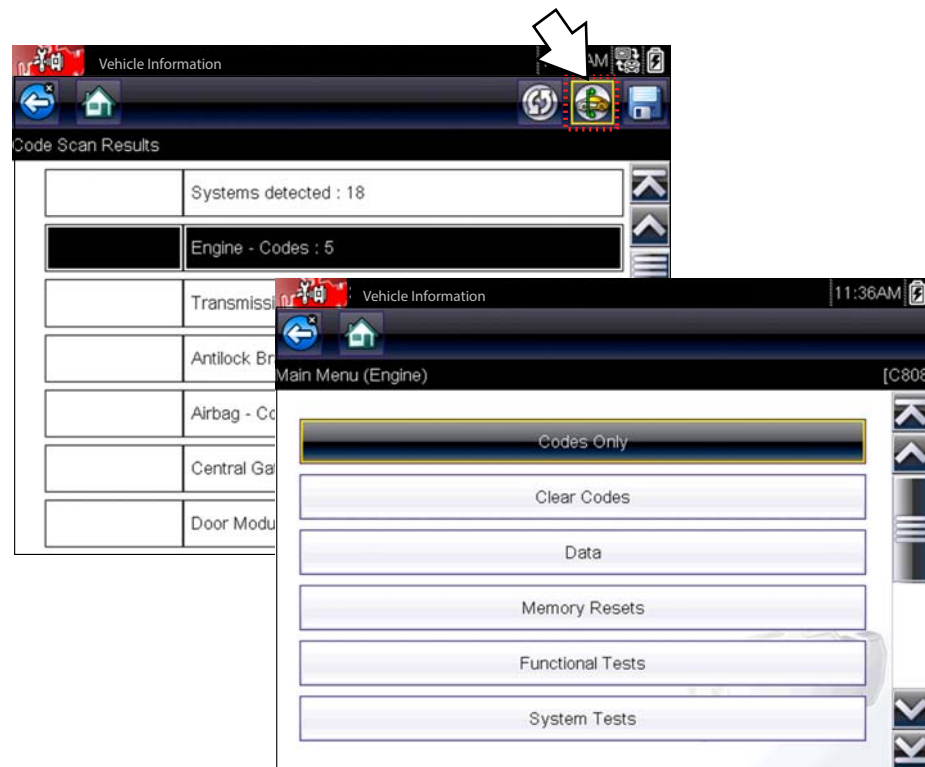

Figure 6-8 System icon (opens Main Menu)
- **A list of all the systems analyzed with DTCs totals.** A categorized system list with DTC totals is displayed in the order they are scanned. To view the main menu for a system in the list, select the system, then select the **System** icon (Figure 6-8).